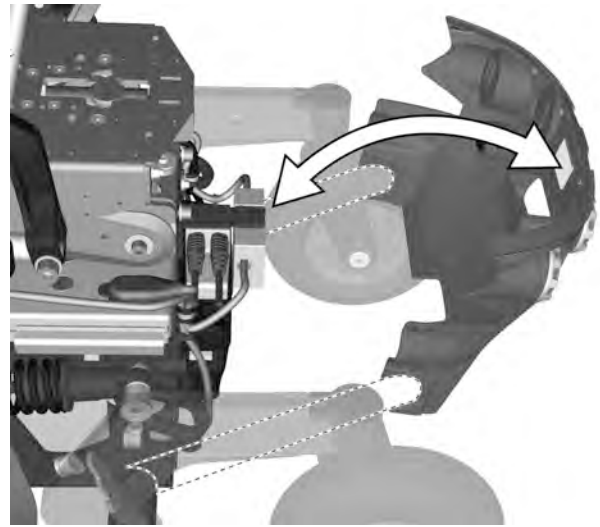

Figure 28. The chassis rear cover.
5. Pull the rear chassis covers off the dual locks and off the chassis. See fig. 28.